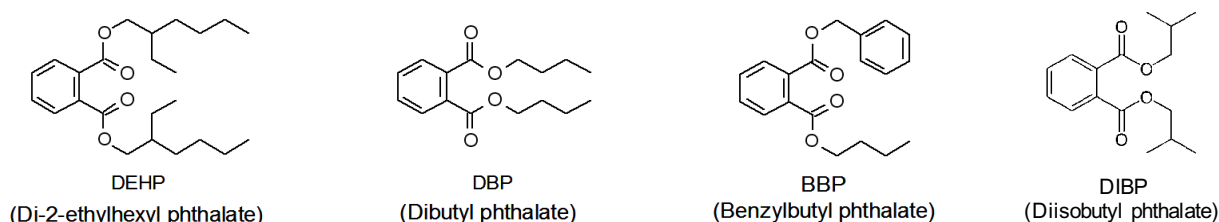

Figure 1. 4 types of phthalate (restricted by RoHS)
Effective 22 July, 2019, the revised RoHS directive (EU) 2015/863 restricted the use of 4 types of phthalates (see Figure 1) in mechanical parts as well as toys. This new directive is very strict, especially regarding the 3 types of phthalates (DEHP, BBP and DBP) in toys, their total concentration should be less than 1000 ppm (0.1%). The recommended evaluation method for phthalates is either GC/MS or Py/TD-GC/MS as used in IEC 62321-8. However, it is complicated to set up and handle these instruments, and a simpler cheaper alternative is required. JASCO has collaborated with “Kankyo Assist Co., Ltd” to develop a simplified evaluation method using FTIR. This application note offers a detailed evaluation procedure for the controlled phthalates.